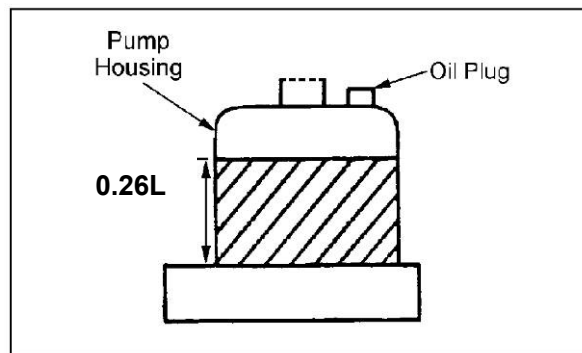
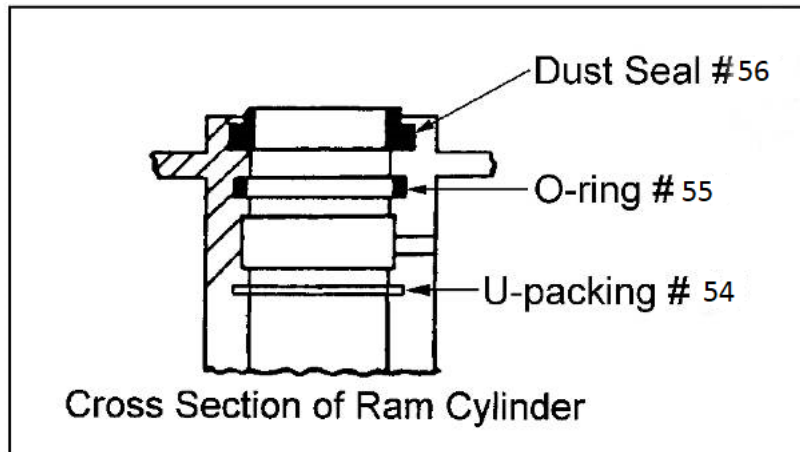

Fig. 5
Fig. 6
Check the oil level annually by removing the oil plug (53) on top of the pump housing. When changing or adding oil, fill the tank through the oil plug hole with 0.26L of new hydraulic jack oil. See Figure 5. Do not use any other type of oil. When finished, replace oil plug (53).
- ①. Raise the pallet truck by pumping handle.
- ②. Remove shaft (20). This will free the pump and handle assembly from the pallet truck.
- ③. Remove the oil plug (53), turn pump over and empty the oil into a suitable container. Pump handle until all oil has drained. Dispose of used hydraulic oil according to local disposal regulations.
- ④. Pull out plunger piston (59) and/or ram piston (57).
- ⑤. Remove all O-rings and seals. See Fig. 6.
- ⑥. Insert new O-ring or seal one at a time making sure to replace with the same size that was removed.
- ⑦. Reassemble and fill the oil tank through the oil plug hole with 0.26L (8.8 oz.) of new hydraulic jack oil. See Fig. 5.